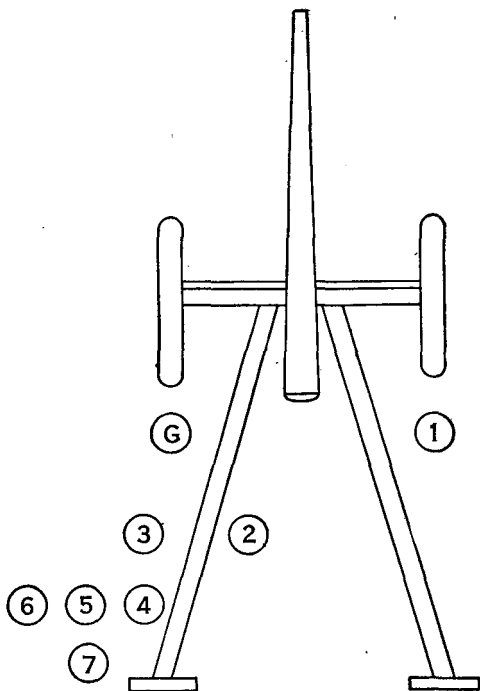

FIGURE 34.—Posts of cannoneers, gun uncoupled.
■ 79. **POST OF CANNONEERS, PIECE UNCOUPLED** (fig. 34).—*a.* The piece having been uncoupled, posts are taken as follows: